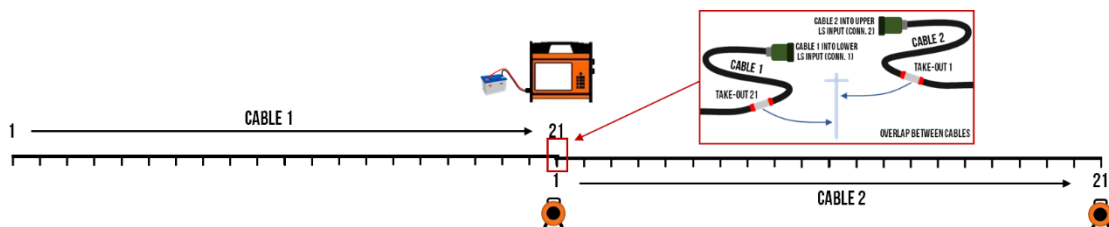

Figure 117 Schematic of a 41 electrode, 2-cable set-up; note the 21 take-out cables use an overlap between cables, where they share a single electrode
- If cables are used at their full take-out spacing, lay out the cables first, overlapping last and first take-outs (only done with 21 take-out cables, see Figure 117), then use the take-outs to position electrodes.